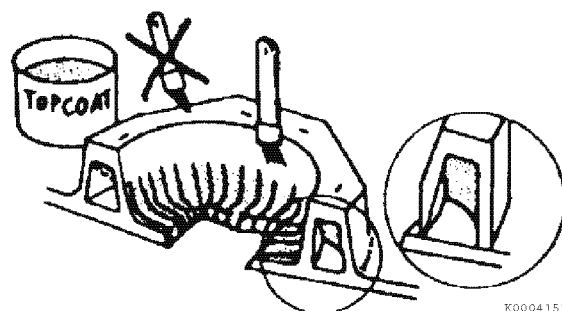

Figure 17
9. Apply a layer of glass fabric and resin to completely seal the cavity around the sail drive installation hole (Figure 17).